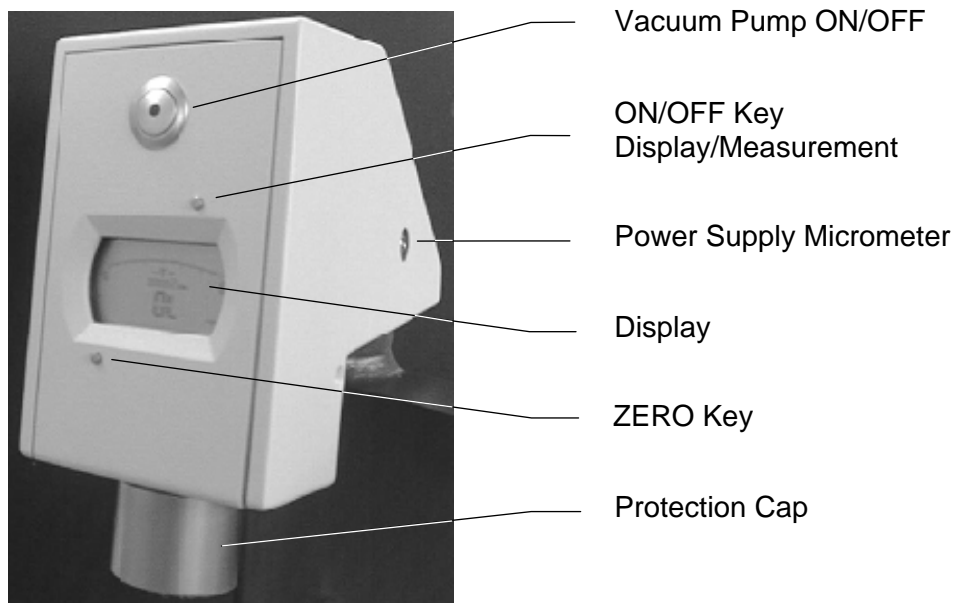

Figure 126: Ablation Depth Micrometer
1. Turn on the Ablation Depth Micrometer (press the small ON/OFF Key for approximately 2 seconds and then release, see figure 126 “Ablation Depth Micrometer” on page 166). “ON” will be displayed.
5. Now, switch on the vacuum pump with the “Vacuum Pump ON/OFF Key” (LED glows GREEN, see figure 126 “Ablation Depth Micrometer” on page 166).
7. Wait one minute until the value indicator ceases to change, then set the Ablation Depth Micrometer to **0.000** by pressing the **ZERO** Key (see figure 126 “Ablation Depth Micrometer” on page 166).